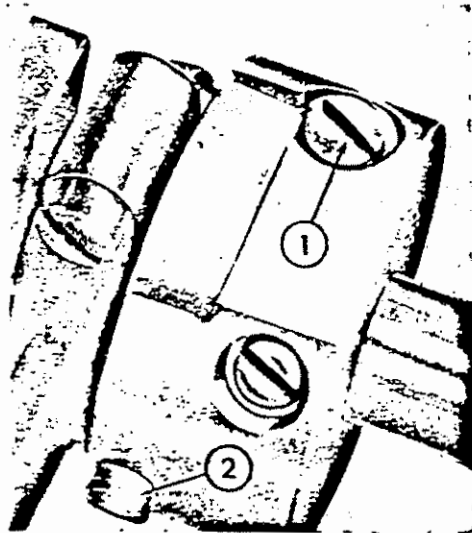

Fig. 18
#### 9. Regulating the stitch length (See Fig. 18)
Rotate the hand wheel and loosen the set screw ② Fig. 18. If the eccentric amount adjuster screw ① is turned to left, the stitches will be longer and if it's turned to right, the stitches will be shorter.